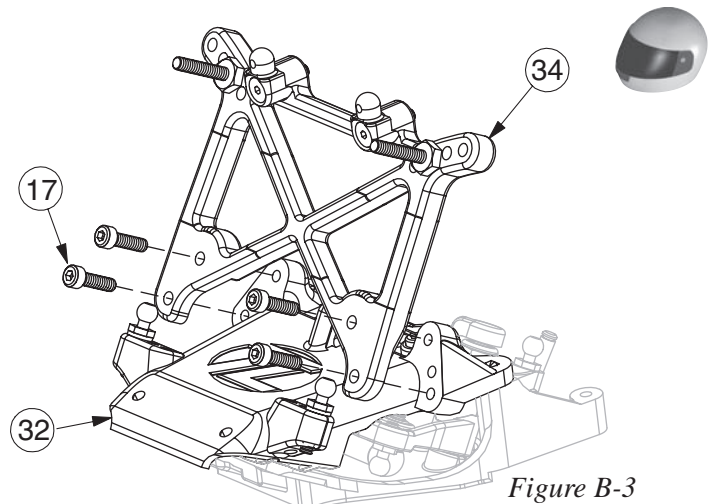

Figure B-3
**IMPORTANT NOTE:** The Screws in the top of the Shock Tower must be pointing forward as shown in Figure B-3.
1. Attach the front Shock Tower (34) to the front Bulkhead (32) with four 4-40 x 3/8" Cap Head Screws (17). The Screws thread into the top and bottom holes in the Bulkhead, corresponding with the appropriate holes in the front Shock Tower. The middle holes in the Bulkhead are not used.